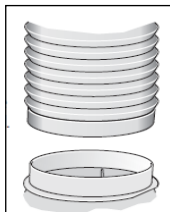

Fig. 6
Connection to exhaust air pipe (Fig. 6 & 6.1)
- Attach $\varnothing 150\text{mm}$ pipe directly to the air outlet and secure appropriately (Fig. 6).